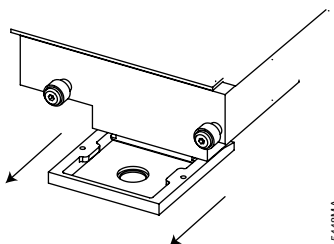

Figure 20. Removing the optical head mask.
6. Place your hand underneath the optical head. Grasp the sides of the optical head mask and pull the mask toward you (Figure 20).